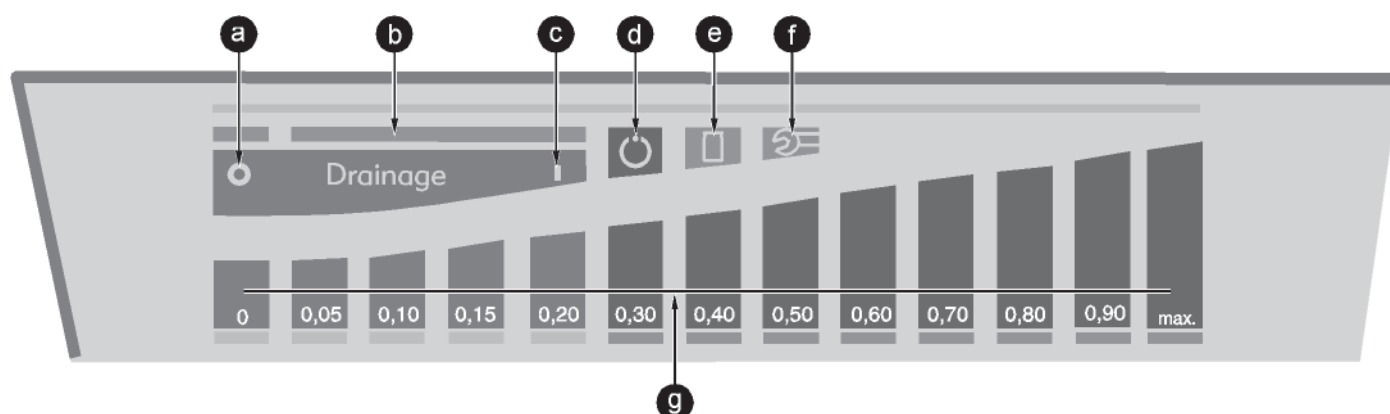

Fig. 16. Display and control panel
- Push one of keys Fig. 16, to select the desired target vacuum (the vacuum is given in bar).